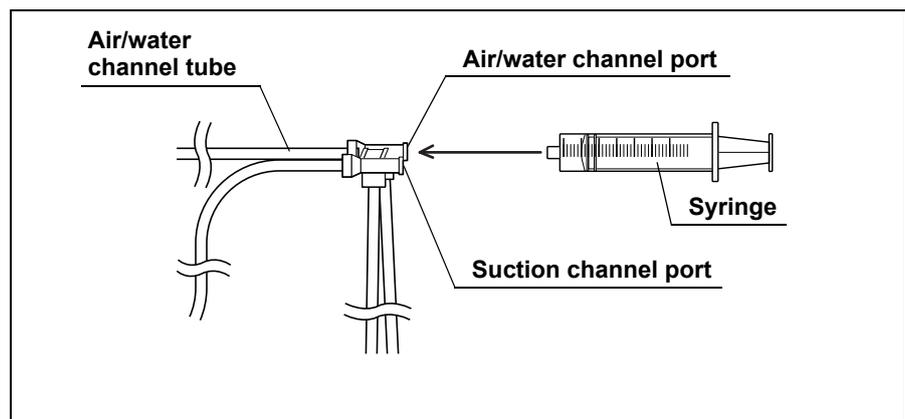

Figure 5.30
4. Move the syringe to the air/water channel port of the injection tube and flush the air/water channel with 90 ml of air. (See Figure 5.30)
6. Move the syringe to the air/water channel port of the injection tube and flush the air/water channel with 90 ml of the rinse water. (See Figure 5.30)
13. Move the syringe to the air/water channel port of the injection tube and flush the air/water channel with 90 ml of air. (See Figure 5.30)